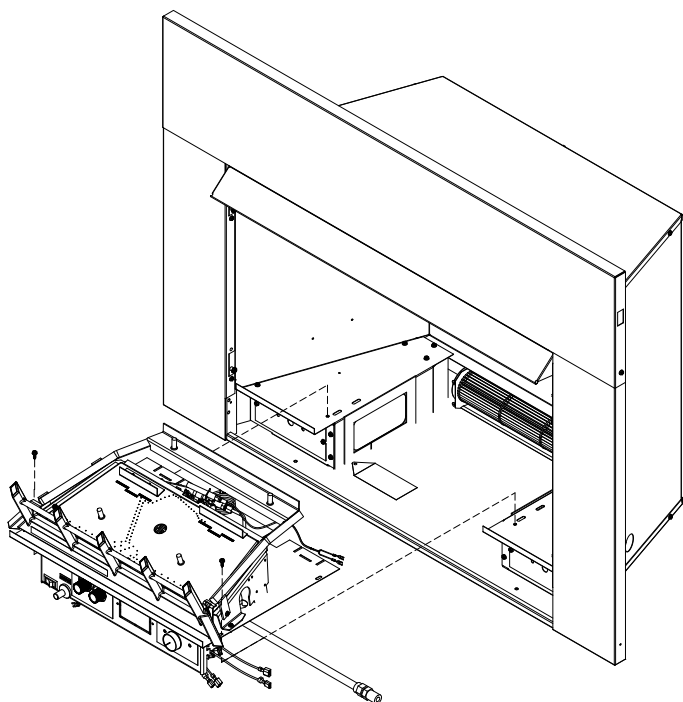
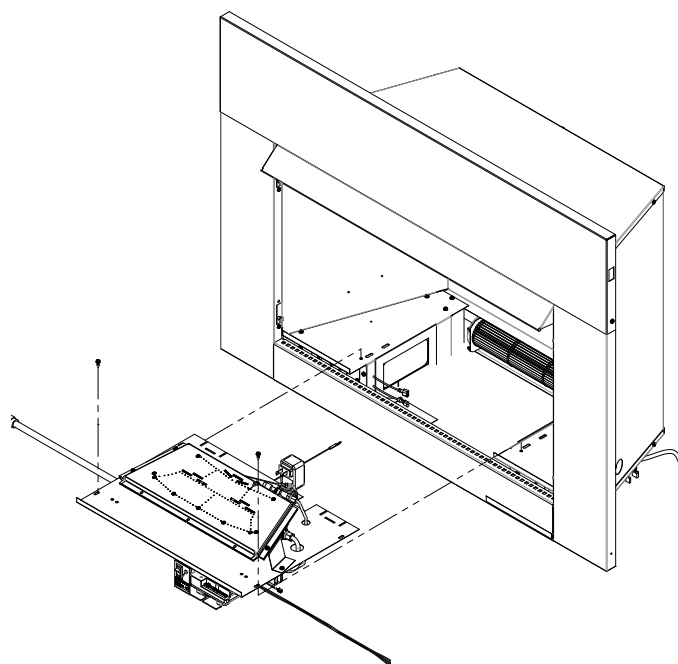

Figure 14. Remove Grate and Base Assembly (VFI33L models)
Figure 15. Remove Base Assembly (VFI33C models)
1. To remove the grate and base assembly, take out two screws as shown in Figure 14. and Figure 15.